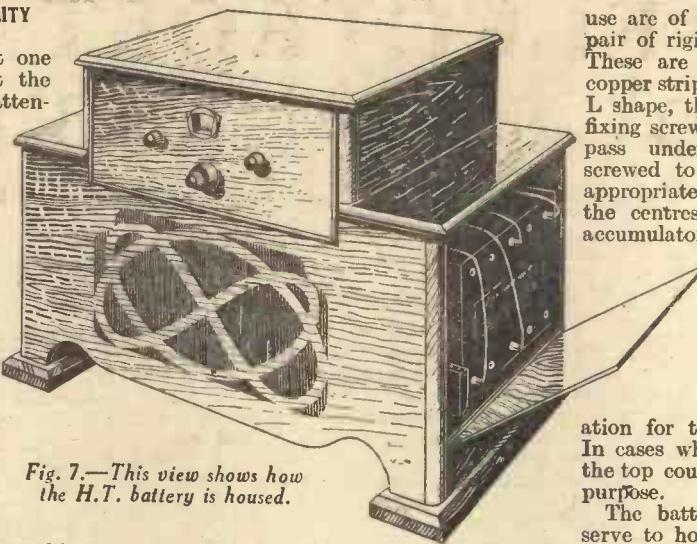
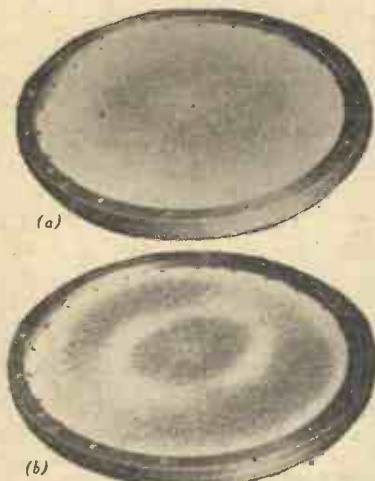

Fig. 7.—This view shows how the H.T. battery is housed.
Fig. 9.—How a stretched diaphragm oscillates: (a) Bass tone (about 100 c.p.s.), (b) Third harmonic (about 250 c.p.s.).
To obviate having to do this, provision might be made to house the batteries in wings on either side of the cabinet. How convenient such an arrangement can be is readily discerned by reference to Fig. 7. This method has the added advantage of keeping the accumulator away from the metal work inside the set, but even so it is as well to provide a metal tray for it to stand in.
Fig. 7.—The construction of a bilateral static speaker with bakelite electrodes. (1) Resting electrodes, (2) Diaphragm, (3) Press screws, (4) Centric adjusting screw, (5) Conducting graphite layer on the resting electrode, (6) Insulating layer on the resting electrode, (7) Thin insulating layer on the diaphragm. Fig. 8.—Detail sketch, showing the insulation between the electrodes.
In Fig. 7 the two resting electrodes 1 are pressed together at their border by screws 3, and the diaphragm 2 is squeezed between them. To obtain full response, even of the lowest notes, the diameter of this type has been increased to 40 cms. By ring ribs and radial ribs the resting bakelite electrodes are prevented from warping. The electrode distance can be regulated by the centre screw 4, and is increasing towards the centre. This is to obtain great swing space in the centre for the low notes and minimum electrode distance at the circumference, which is necessary for reproducing the high frequencies. The perforations of the resting electrodes are varied throughout the whole area. There are very few perforations in the centre and at two-thirds of the total diameter of the diaphragm, and this is to obtain high air-damping at these points. The diaphragm, although very light, tends to produce resonance points at its first and second natural frequency, having maximum amplitudes at the centre and at two-thirds of the total diameter (see Fig. 9). By arranging fewer perforations at these points the air cannot escape, and causes additional damping of these diaphragm portions, thus suppressing the resonance effects.